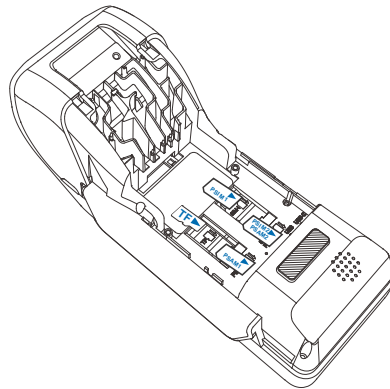

Figure 5 SAM Insertion
- 4 Insert the SAM cards. Carefully slide the cards one at a time into the slots until fully inserted. The correct orientation of the SAM card is as indicated in figure 5.